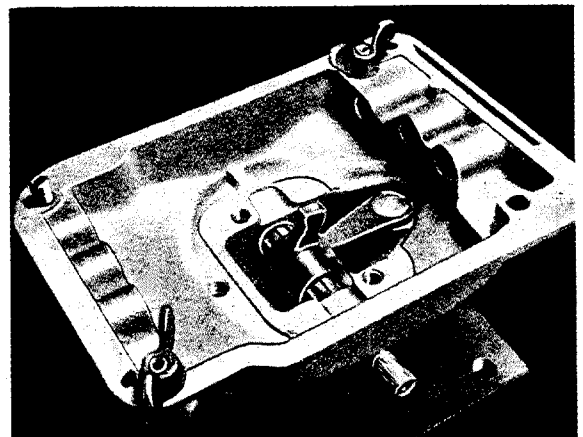

Fig. G 3/38
38. Install selector finger so in the transmission cover that it projects into the recess of the shift finger (Fig. G 3/38).